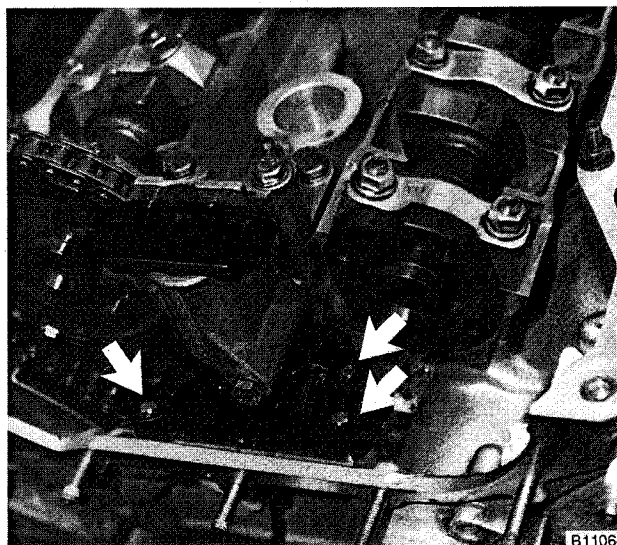

Fig. 38. Timing chain guide mounting bolts (arrows). M50 engine shown.
32. Remove timing chain guide (Torx E8 socket). See Fig. 38.